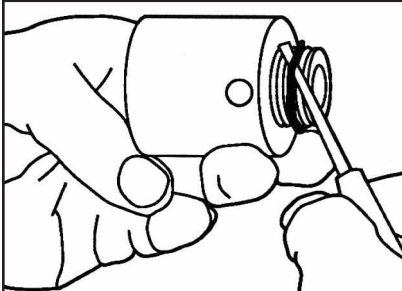

Figure 48
9. Remove the body seal O-ring. (Fig.48)